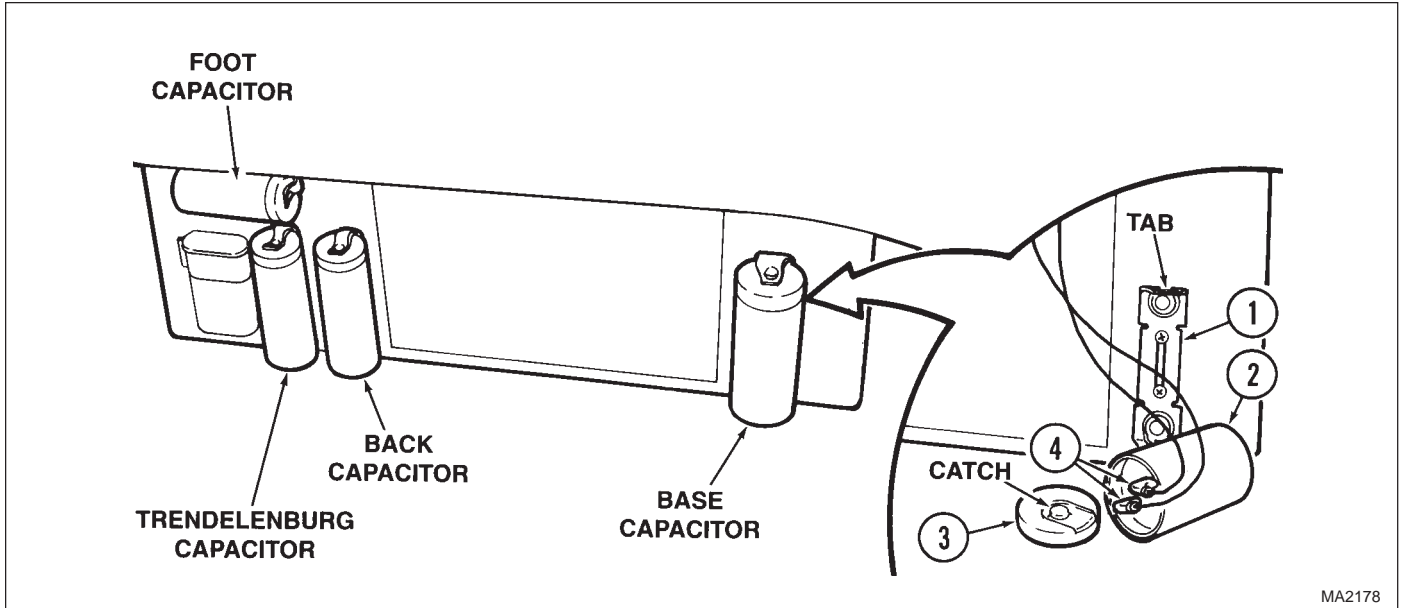

Figure 4-55. Base, Trendelenburg, Foot, or Back Capacitor Removal / Installation
- (1) Disconnect electrical power from surgery table.
- (2) Remove electrical cover (Refer to para 4-4).
- (3) Refer to Figure 4-55 to determine the location of the malfunctioning capacitor.
- (4) Using a screwdriver, pry tab of capacitor mounting bracket (1, Figure 4-55) upward and remove capacitor (2) from capacitor mounting bracket.
- (5) Remove capacitor cap (3) from capacitor (2).